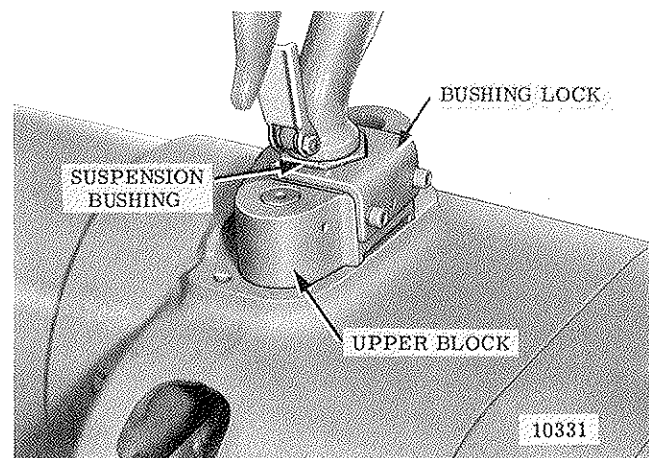

Figure 7-26. View of Upper Hook Assembled To Hoist Frame (2 Ton Models)
(2) On 2 ton models, unscrew two hex socket head screws holding suspension bushing lock assembly to upper block (fig. 7-26) and remove lock. Unscrew suspension bushing from block to remove hook. To disassemble block from frame remove drive pin from nut inside frame and unscrew nut from stud holding body to frame. Remove drive pin securing threaded end of chain anchor in block and unscrew anchor. Block can then be lifted off.